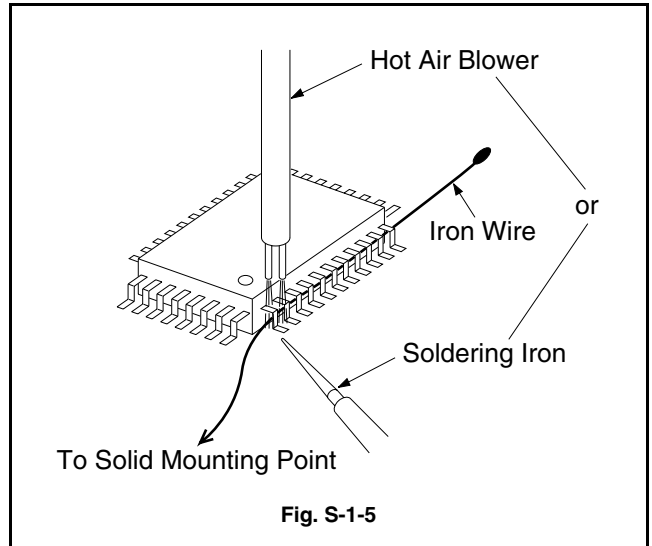

Fig. S-1-5
- b. Affix the wire to a workbench or solid mounting point, as shown in Fig. S-1-5.